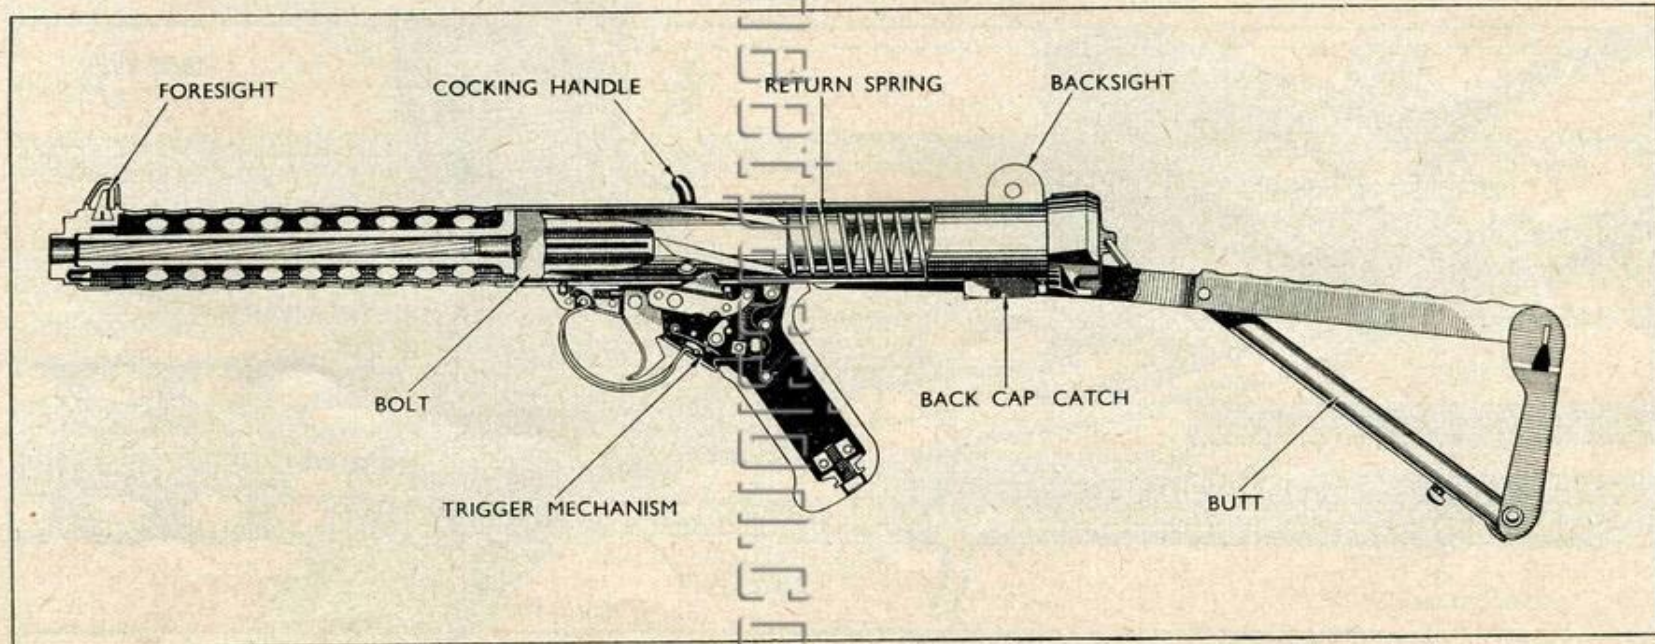

Fig. 1. Sectional arrangement
4.0 The weapon (Fig. 1) is operated by case projection or blow back operation.